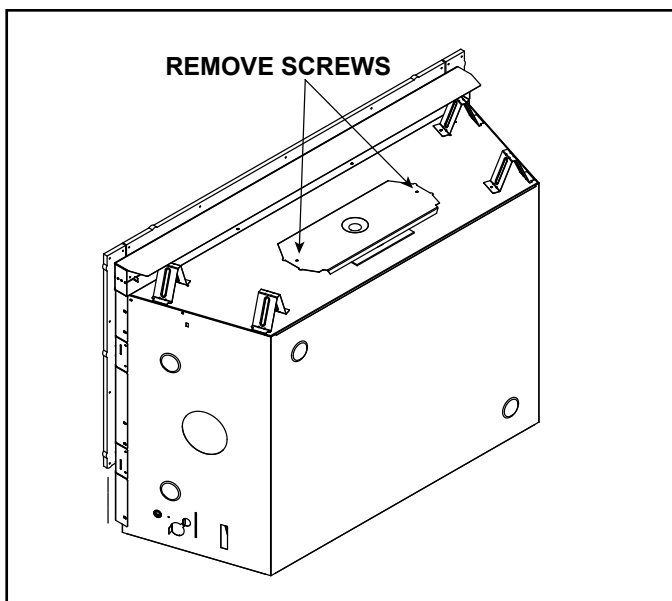

Figure 6.1 COSMO42-IFT - Shipping Position
1. Remove two screws and discard. See Figure 6.1.